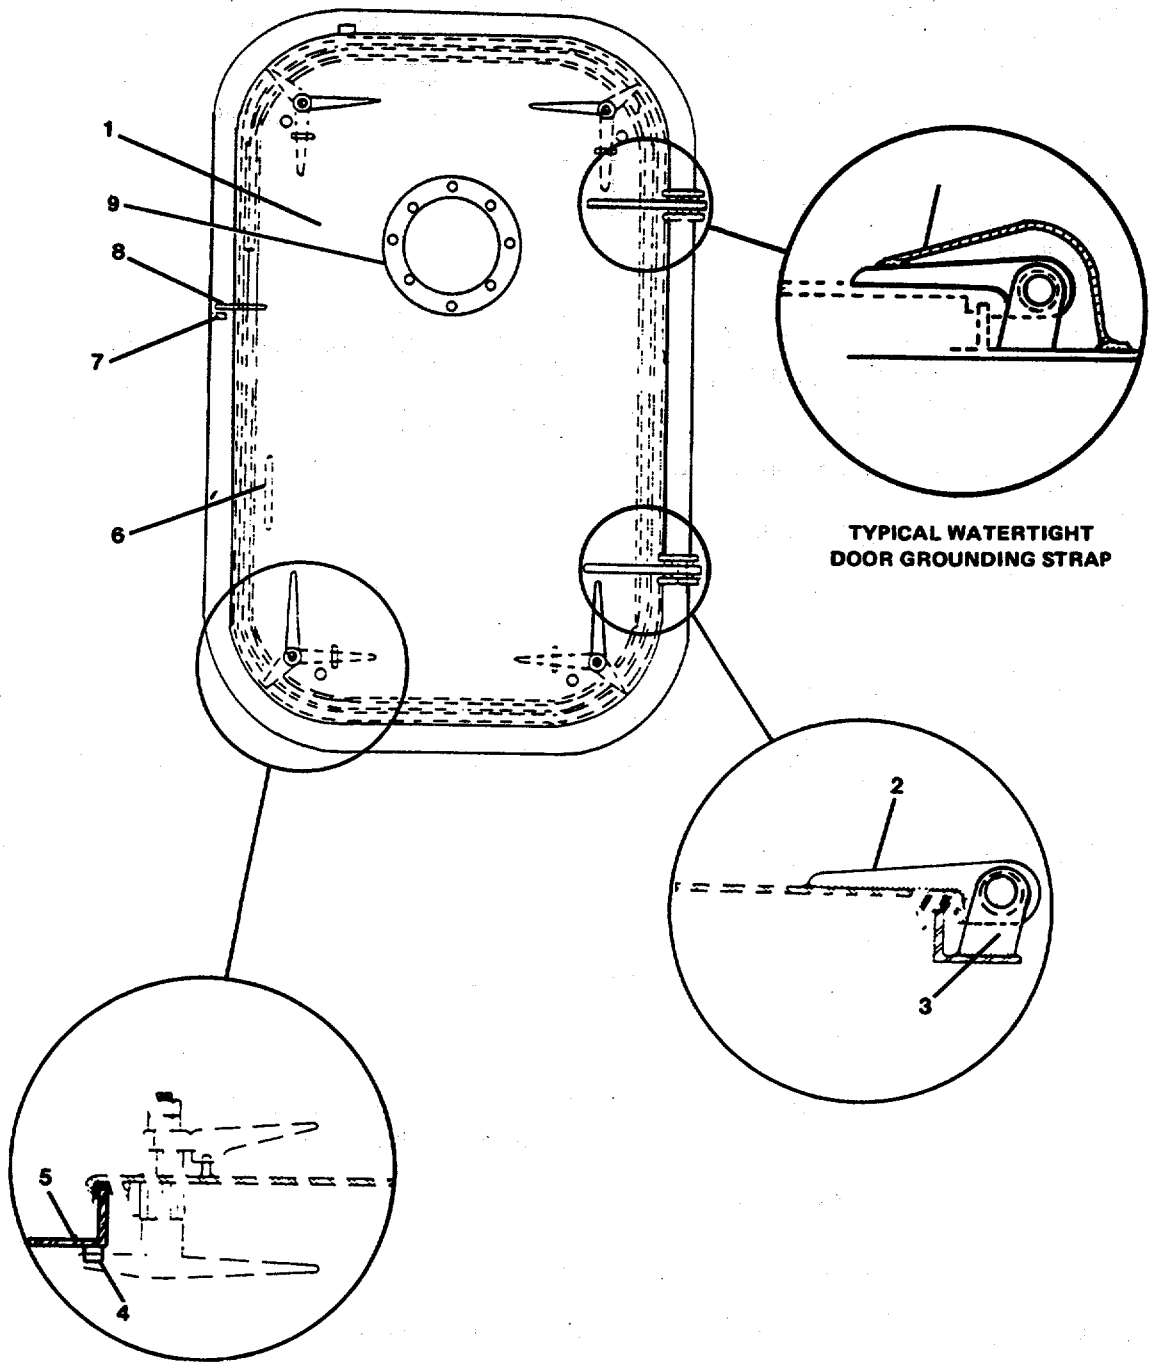

FIGURE 3-168. *Repair Watertight Door. 30 x 51 (with Fixed Light).*
**3-185. Repair Watertight Door, 30 x 51 (with Fixed Light). (Figure 3-168)**